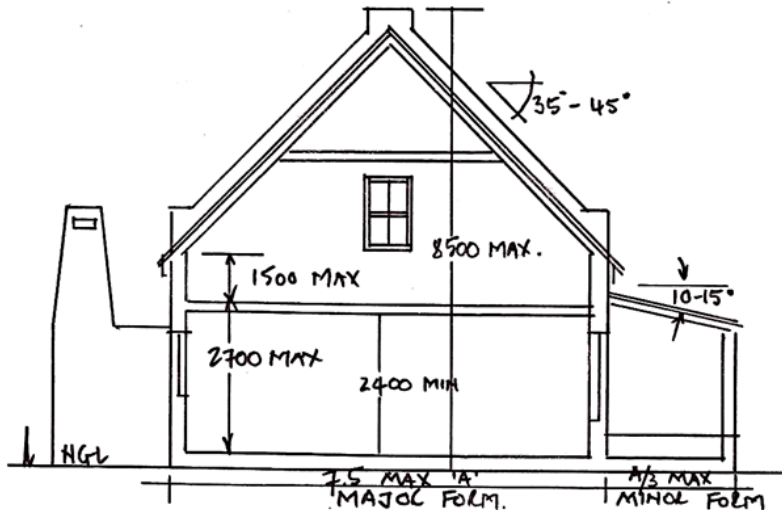

FIGURE 02: BUILDING HEIGHT & ROOF PITCH
- Only double pitched roofs between 35° - 45° and symmetrical about their ridges are permitted (FIGURE 02).